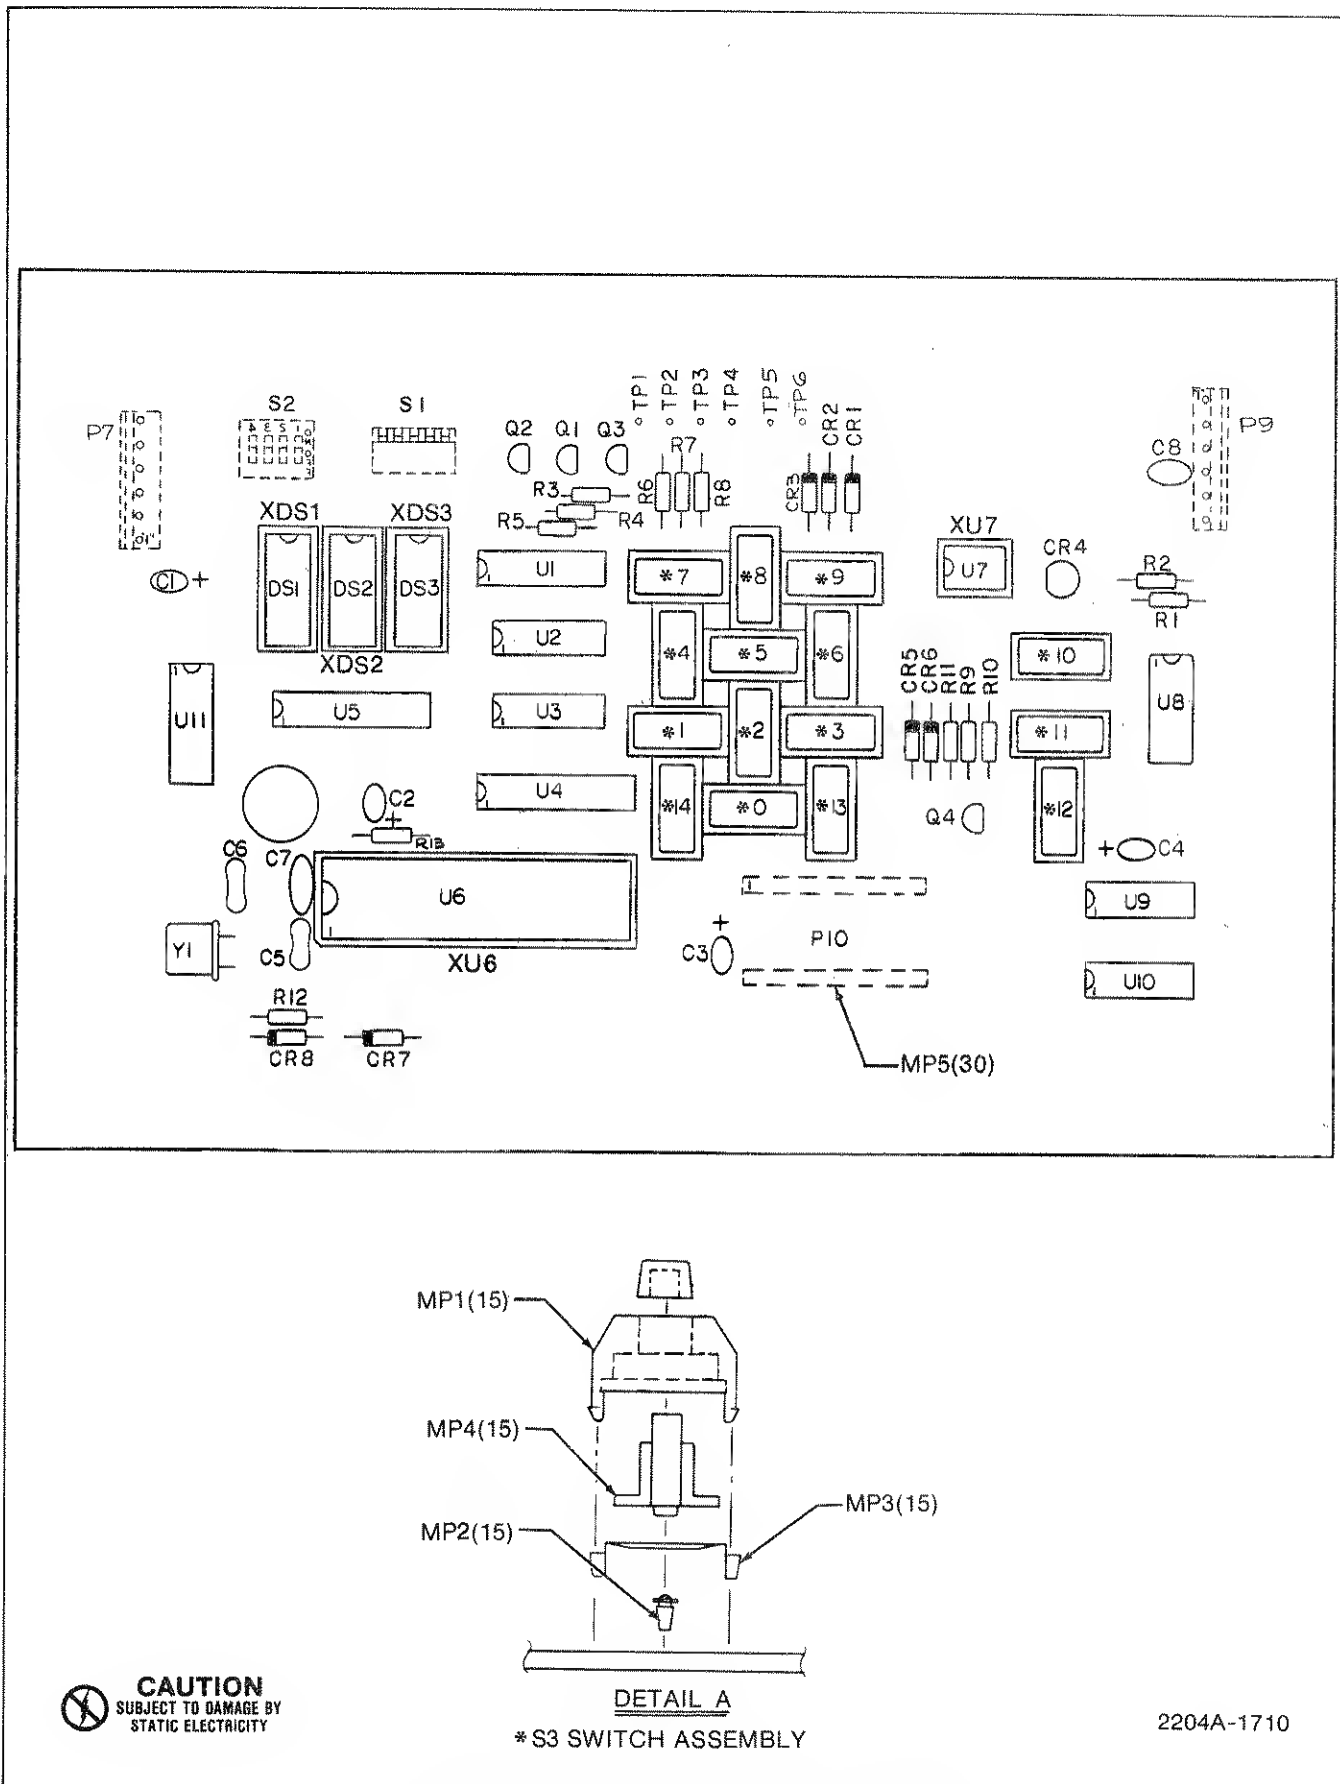

Figure 6-2. A1 Front Panel Display PCB Assembly
| A1⑩ | FRONT PANEL DISPLAY PCB ASSY FIGURE 6-2 (2204A-4010T-PH2) | 639708 | 89536 | 611061 | REF | | |